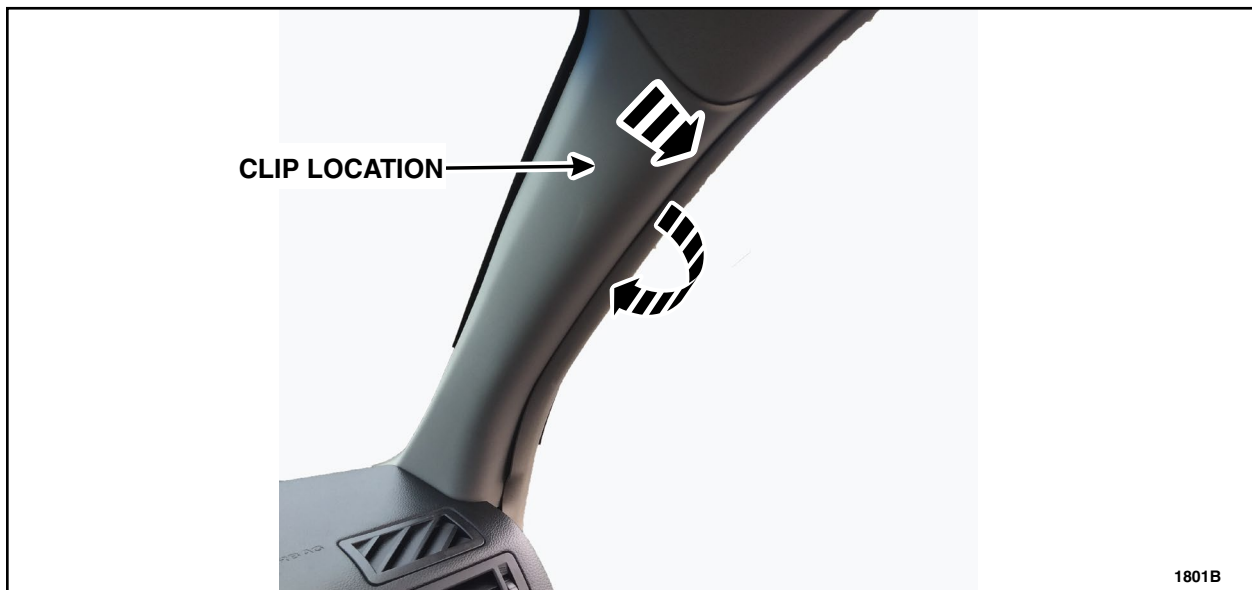

FIGURE 2
2. Remove the left hand and right hand A-Pillar trim panels. Reuse the LH and RH trim panels for this repair. See Figure 2.